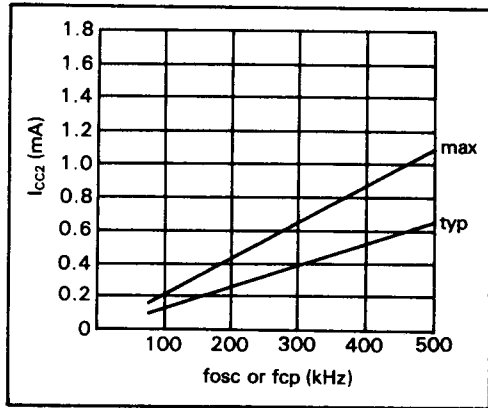

Figure 47 Frequency vs Current
11. Relation between operation frequency and current consumption is shown in figure 47.